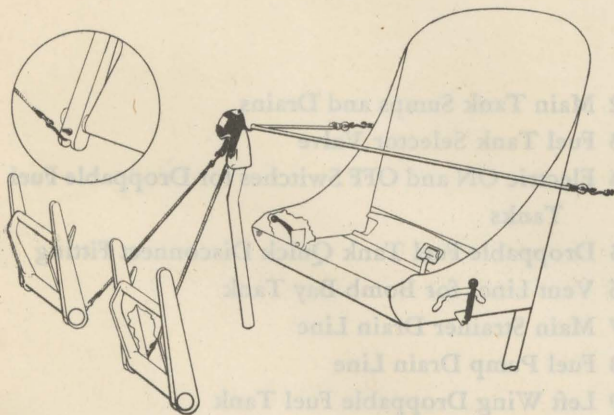

Figure 14 — Stick and Harness
(1) AILERON AND ELEVATOR.—A conventional stick, equipped with pistol type grip, is provided. To lock controls, place the metal cap over the control stick, hook the two attached wire cables into the rudder pedals and attach the elastic cords by means of hooks to the bulkhead immediately behind the pilot's seat as shown in figure 14.